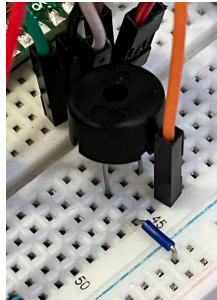

Fig 4. Buzzer Indicator
- Attach the buzzer to the breadboard. The buzzer has 2 connections: positive and negative. Attach the negative connection of the buzzer to ground, and use a jumper wire to attach the positive connection of the buzzer to the PocketBeagle PWM pin (PWM 1, P2_1). (Fig 4)